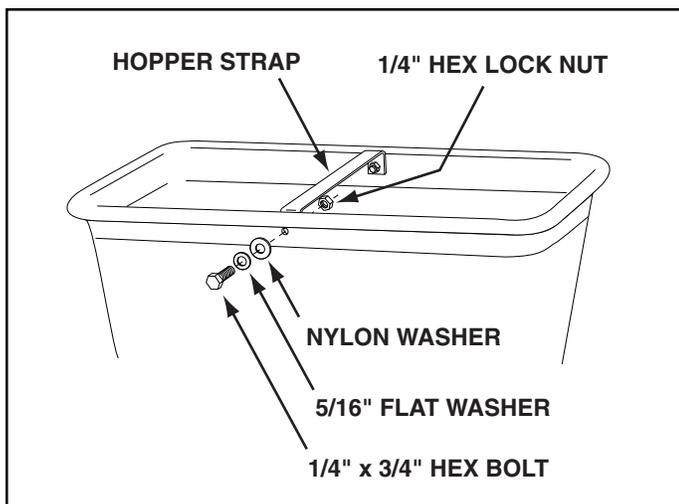

FIGURE 5
12. Attach the hopper strap to the front and rear of the hopper using two 1/4" x 3/4" hex bolts, 5/16" flat washers, nylon washers and 1/4" hex lock nuts. See figure 5.